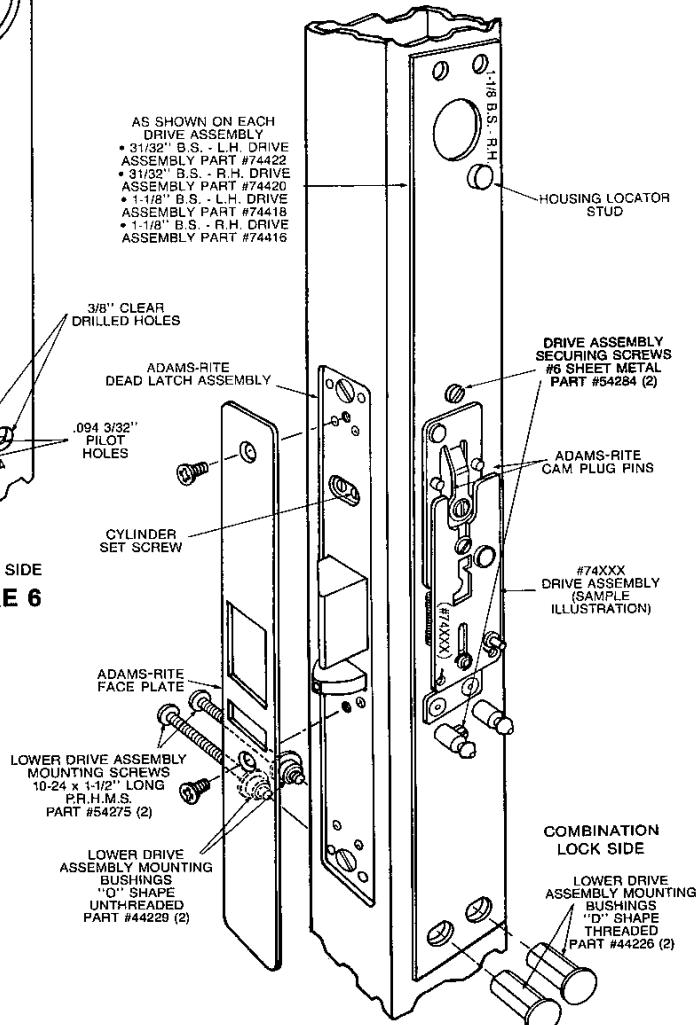

FIGURE 7
Step 14: (Figures 7 and 4)
Step 11 (Fig. 7)
Locate the drive assembly on lock side of door over the pins on the Adams-Rite cam plug. Secure lower portion of drive assembly using two drive assembly mounting bushings "D" shape threaded (part #44226), two drive assembly mounting bushings "O" shape unthreaded (part #44229) and two drive assembly mounting screws 10-24 thd. x 1-3/4" long. P.R.H.M.S. (See Fig. 7 for location of screws and bushings.) After securing lower drive assembly mounting bushings to stile, apply hand pressure to upper portion of drive assembly flush to stile while drilling two (1/8") holes to accept drive assembly securing screws (#6 sheet metal) (part #54284) (2). (See Fig. 7), drive assembly must always be parallel to stile. Note: Drilling of holes is not necessary for wood door installations. Tighten the cylinder set screw. (See Step 4) Make sure the drive moves freely up and down when holding Adams-Rite latch depressed. Drive should return freely to original position without the help of the Adams-Rite latch spring.